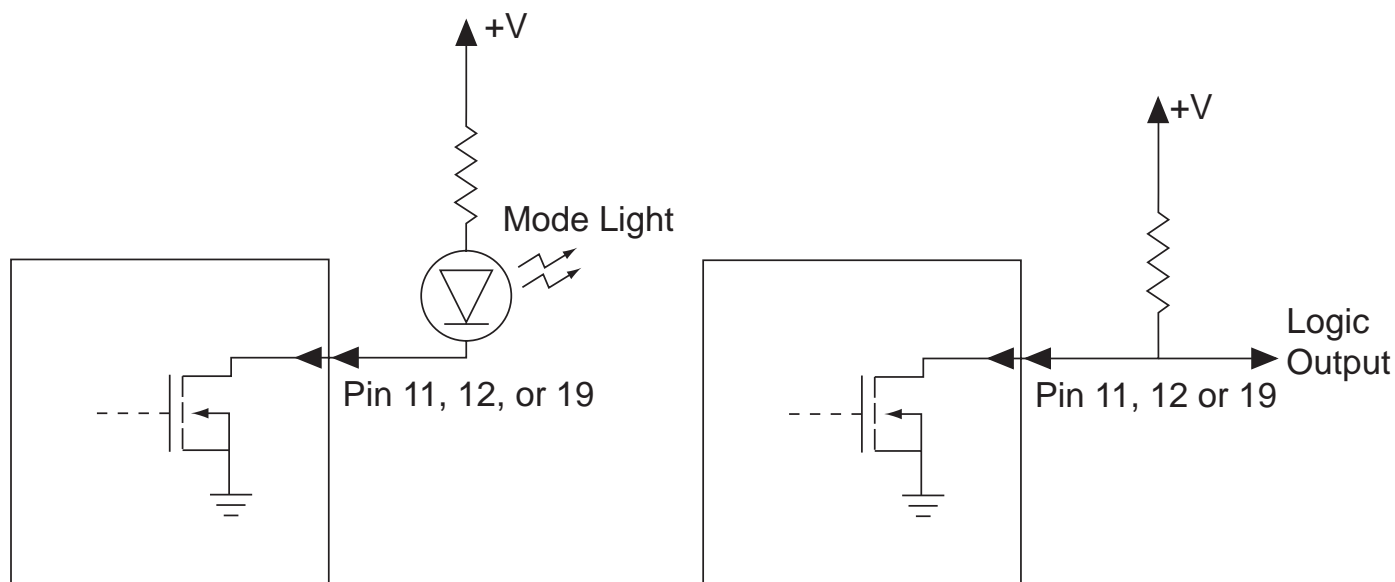

**Figure 1. Typical Programming Input**
**Pin 6 – Voltage Programming:** A 0V to +10V signal will program the power supply for 0 to 100% rated output voltage. The input impedance for this control pin is 10M $\Omega$ ; a resistor to ground will program the power supply for zero output voltage if this pin is left open. See Figure 1 for a typical programming pin circuit.